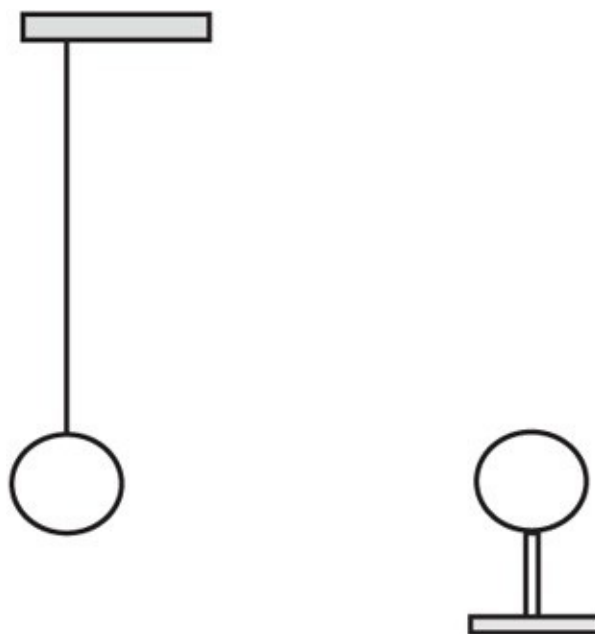

Figure 96-1 *Two uncharged balls in equilibrium position.*
2. Attach the other sides of the string to the pendulum clamp separated by a few inches, so the pith ball can swing in only one direction, as shown in Figure 96-1.